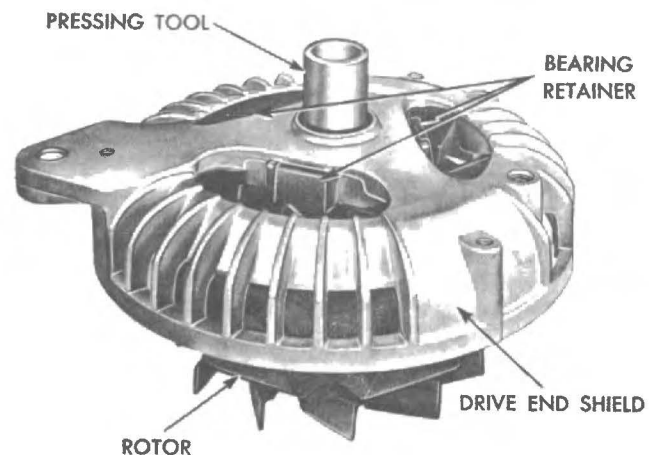

Fig. 44 - Installing drive end shield and bearing (Tool CA-3769).
(6) Insert the drive end bearing in the drive end shield with the shielded side of bearing toward the rotor and install the bearing retainer plate to hold the bearing in place.
(7) Position the bearing and drive end shield on the rotor shaft, and, whilst supporting the base of the rotor shaft, press the bearing and shield into position on the rotor shaft with arbor press and Tool CA-3769 (Fig. 44).